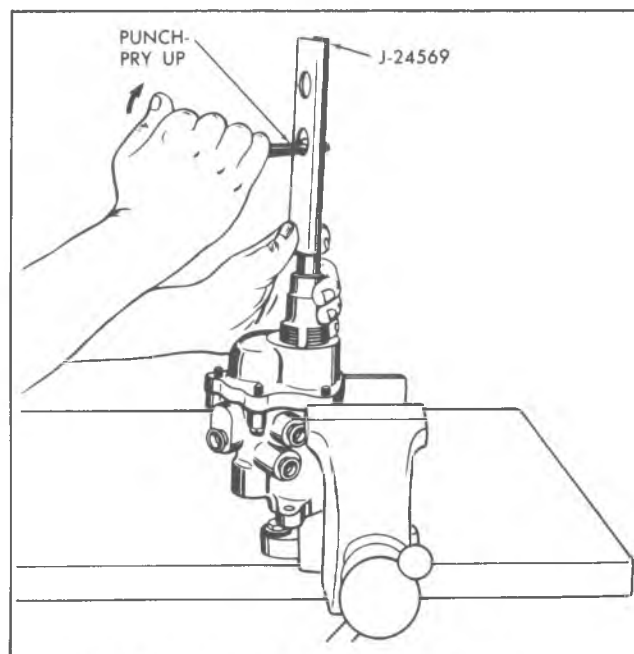

Fig. 5-2E—Removing Booster Pedal Rod (Typical)
3. Place Tool J-24569 around the pedal rod and resting on the input rod end as shown in Figure 5-2E.